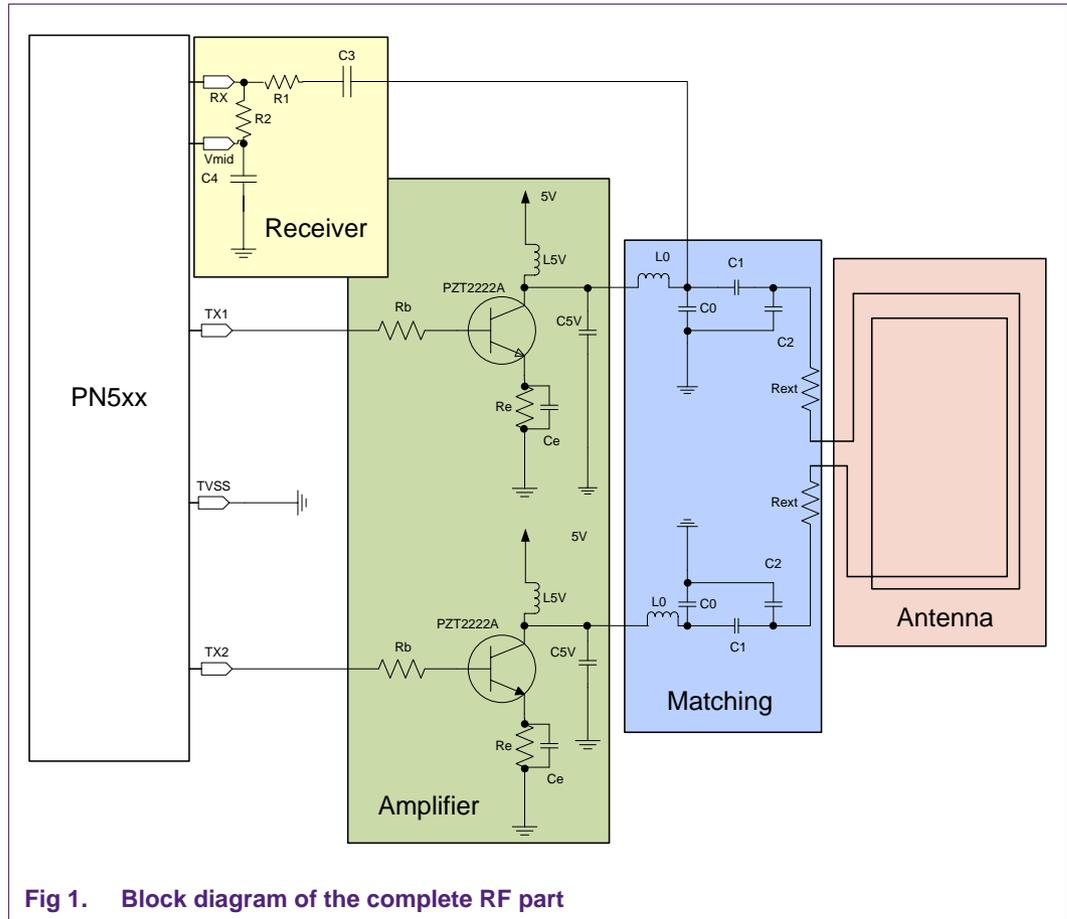

Fig 1. Block diagram of the complete RF part
| 2.4 | 20110802 | <a href="#">Fig 1</a> updated                                |
- a. Fig 1 shows the recommended amplifier circuit with all relevant components required to connect an antenna to NXP's contactless NFC reader IC's. This circuit must not only ensure that energy and data can be transmitted to the target device but must also be designed to receive a target device's answer.
**Note:** Fig 1 shows the RF part only. For proper operation, the analog and digital supplies plus the host interface also have to be connected to power supply.
The colored boxes as well as the schematic in Fig 1 show the different parts of the circuit. Each box will be separately discussed in the following chapters.
The Amplifier Circuit (TX-Path) (green box in Fig 1) consists of two emitter amplifiers where the transistors are used as a switch. The TX1 and the TX2 output of the NXP contactless reader chip generates a digital signal which is amplified by the transistors. The signal is directly connected to the matching circuit.
Depending on the antenna PCB (red box in Fig 1), the necessary antenna matching (blue box Fig 1) consists of a symmetric arrangement of an EMC – filter (L0 and C0) plus a serial and parallel tuning capacitors, from the reader chip point of view. To regulate the quality factor of the antenna, the resistor  $R_q$  is added.
The receiver path (yellow box at Fig 1) consists of a voltage divider and two capacitors. The capacitor  $C_3$  is necessary to decouple DC voltage and the following resistor  $R_3$  limits the voltage to prevent clipping at the  $R_x$  – pin of the NXP contactless reader IC.